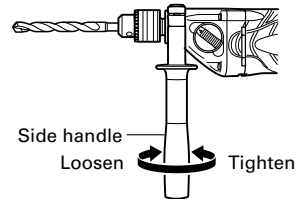

Fig. 6
7. Fixing the side handle (Fig. 6)